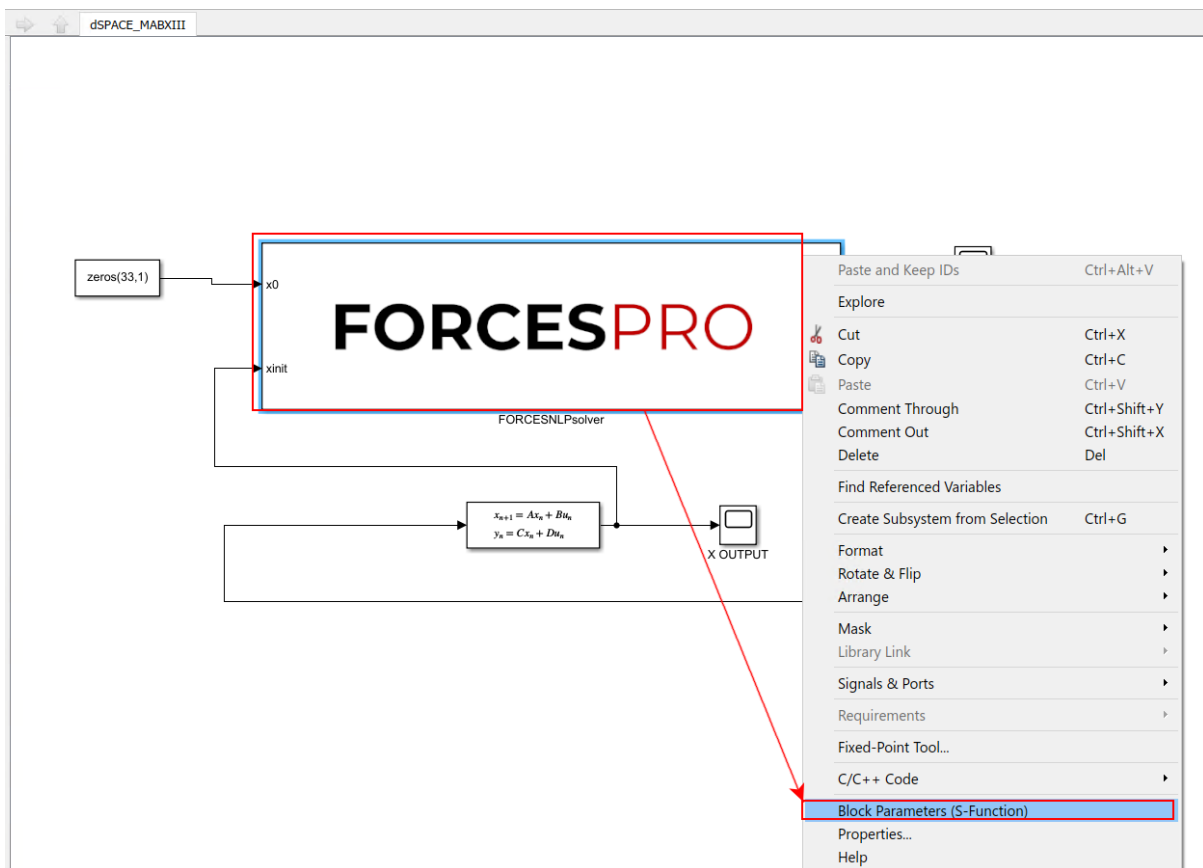

Figure 12.69: Open the FORCESPRO block's parameters.
- 13) Access the FORCESPRO block's parameters (see Figure 12.69).